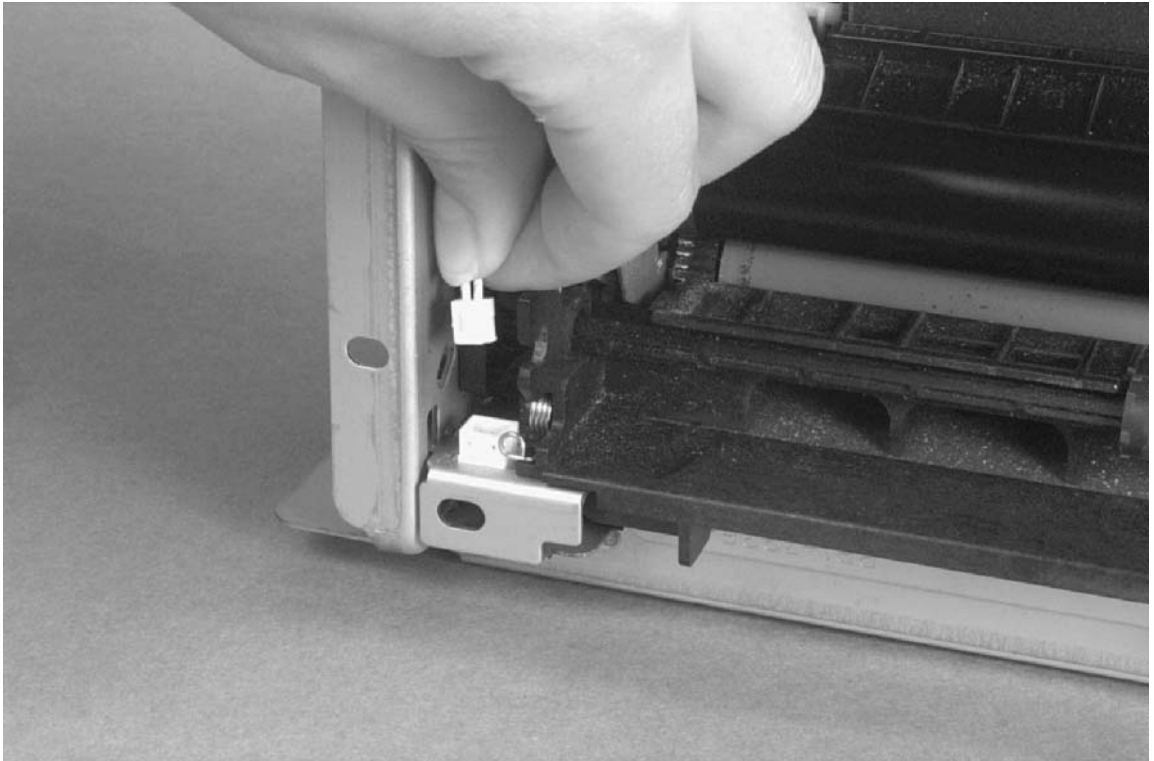

Figure 6-15 Heating Element removal (3 of 3)
- 5 Disconnect the thermistor feedback connector in the left front side of the Fusing Assembly (Figure 6-15).